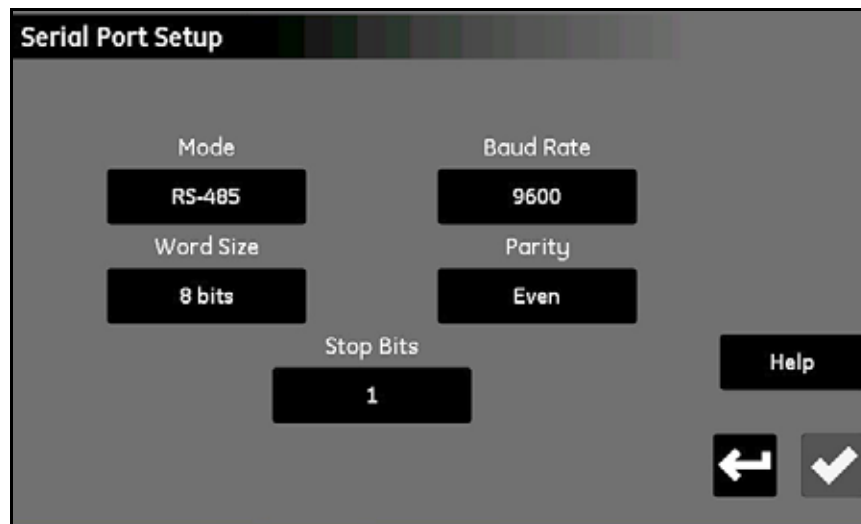

Figure 59: Serial Port Setup Screen
1. From the *Configuration Menu* screen (see Figure 47 on page 53), tap the Serial Port button to open a *Serial Port Setup* screen similar to Figure 59 below.